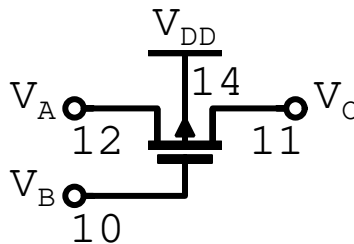

Figure 10: PMOS pass transistor gate
1. Build the circuit shown in Figure 10. Make sure that the breadboard connections from the previous task do not interfere with the present task.